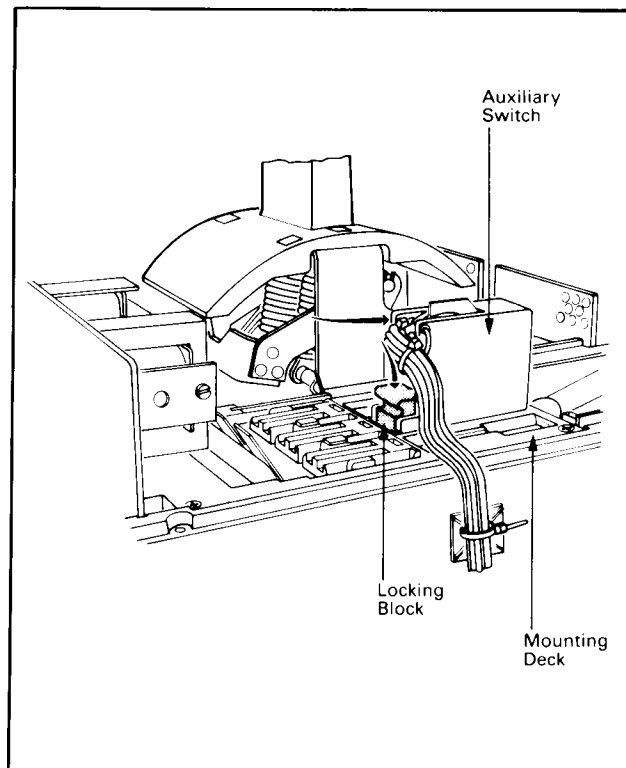
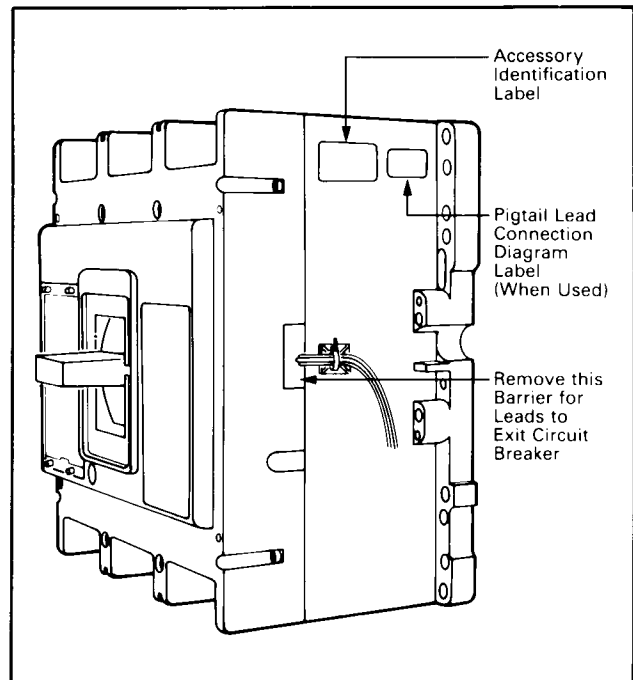

Fig. 2-3. Auxiliary Switch Positioned and Locked in Mounting Deck
Fig. 2-4. Preferred Mounting Locations for Accessory Nameplate Labels
b. Place legs of auxiliary switch mounting bracket into slots in accessory mounting deck (see Fig. 2-3).
2-6. Attach cable tie mounting pad to side of circuit breaker (see Fig. 2-4 for location). Route leads to mounting pad. Ensure leads line up with slot in cover and are clear of all moving parts. Secure leads to mounting pad with cable tie. Leads from multiple accessories may be secured by a single cable tie and mounting pad (see Fig. 2-3).
2-7. Remove barrier indicated in Fig. 2-4 from cover accessory lead slot.
2-9. Position accessory labels on circuit breaker as shown in Fig. 2-4.